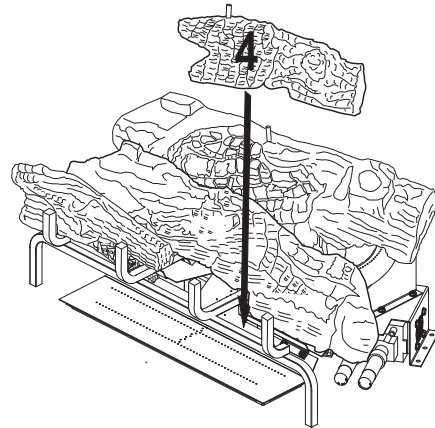

Figure 25 - Installing Log # 4
- Place the front right log (#4) onto the base assembly between the middle log (#2) and the grate. The back of the front right log (#4) will rest against the front of the middle log (#2). The notch in the end of the front right log (#4) will fit around the grate bar. See **Figure 25**.